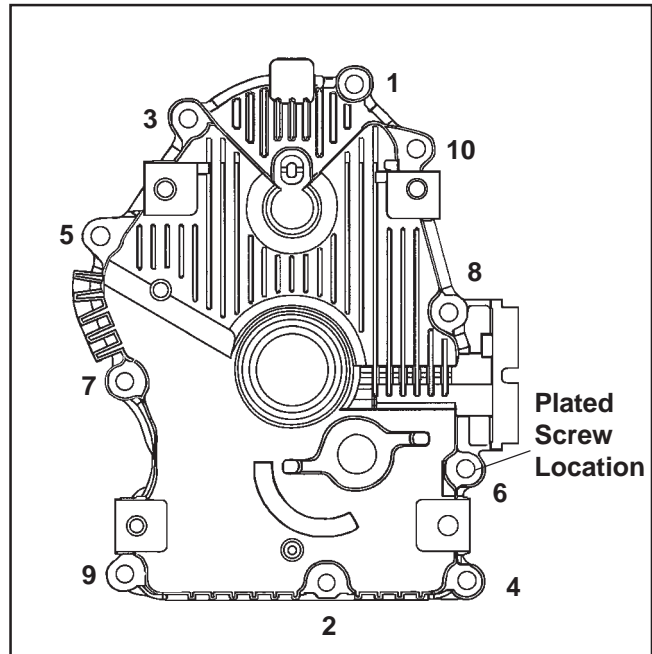

Figure 11-16. Oil Pan Torque Sequence.
6. Install the ten hex. flange screws securing the oil pan to the crankcase. Torque fasteners in the proper sequence to **24.4 N·m (216 in. lb.)**. See Figure 11-16 for the proper torque sequence. On some engines one of the ten mounting screws is plated. The plated screw should be installed in the #6 hole shown in Figure 11-16.